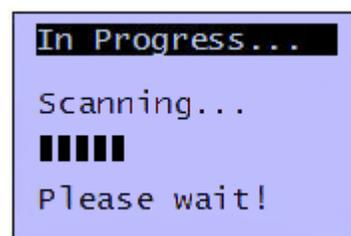

Figure 9
- After the selection, press  key to confirm and the scan tool will proceed the test. (Figure 9)